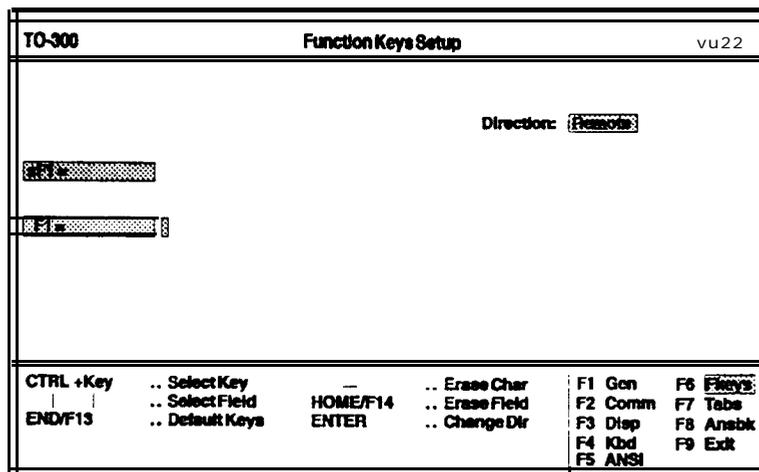

Figure 4-3. Function Keys Setup Screen for To-300 Terminal
9. As necessary, press F6 to change the settings for the Function Keys. The Function Keys Setups screen is displayed as shown in Figure 4-3. This screen allows you to reprogram the function keys.
- o While holding down the **Ctrl** key, press the **Function Key** (F11 or F12) you want to reprogram. The new function key is displayed in the second box, as shown in Figure 4-3.
- d. When the Function Keys have been reprogrammed, you are ready to change another Setup or **Exit** from the Setup screens. The box in the lower right corner of Figure 4-3 shows the Function Keys that can be used.